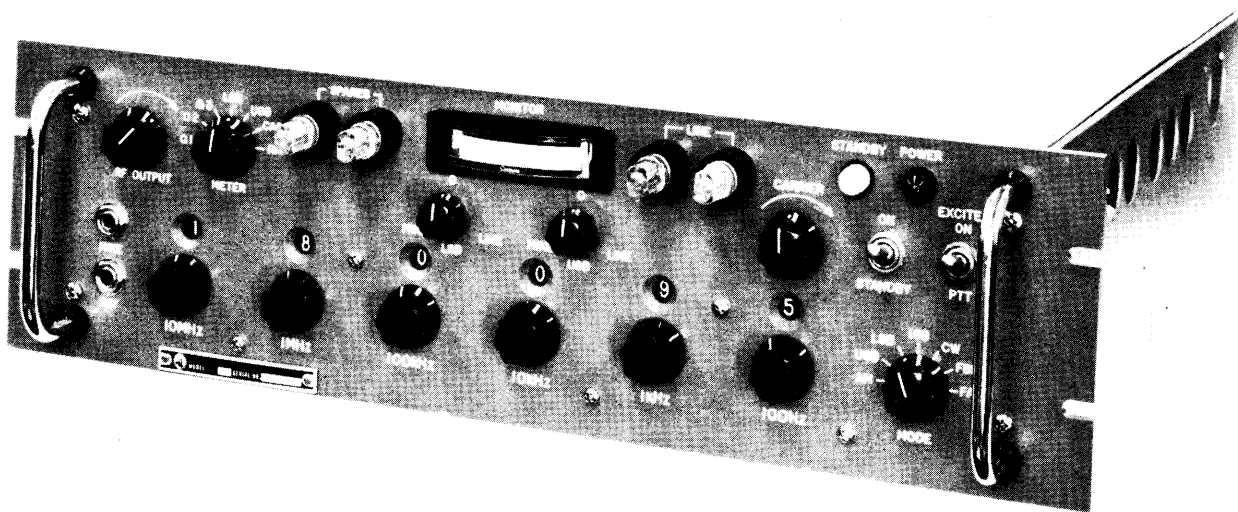

Figure 1-1. Multi-Mode Exciter MMX(M)-2
Multi-Mode Exciter, Model MMX(M)-2 (figure 1-1), hereinafter referred to as the MMX(M)-2, or the Exciter, is a solid-state Exciter which generates rf output frequencies between 1.5 and 29.9999 MHz. Modulation capabilities are CW, AM, SSB (USB, LSB), ISB, FSK and FAX. The bandwidth of the upper and lower sidebands is specified by the customer (refer to table 1-1). The carrier frequency is selectable in discrete 100 Hz increments by means of six frequency selector switches. The Exciter also features built-in frequency stability of 1 part in  $10^8$ /day, and provides a continuously adjustable 250 mv output in AM, SSB, AME, and optional ISB modes of operation. In addition, the Exciter provides an output of up to one watt for continuous wave (CW), frequency shift keyer (FSK) and facsimile (FAX) operation.